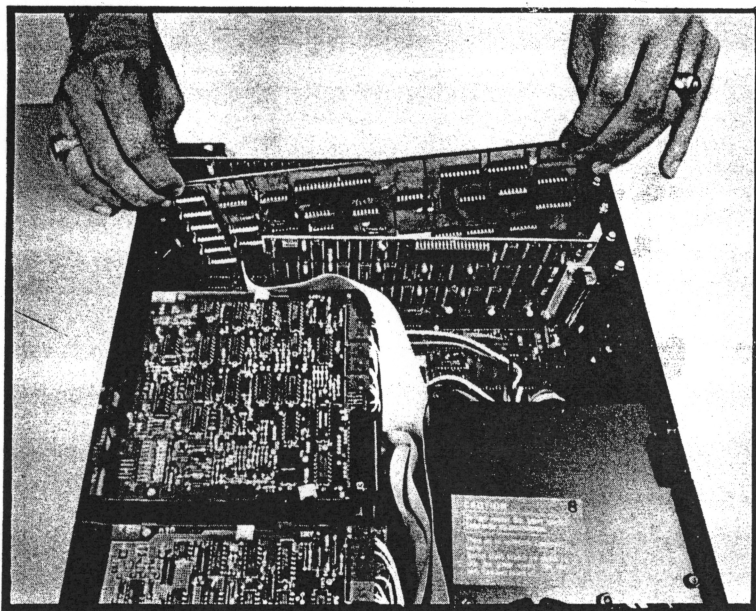

Figure 7
*Plug-in:* Ease the mounting bracket's tongue into the gap between the system board and the back panel and press the Baby Blue board into the expansion slot (Figure 7). The board should seat firmly — you should *feel* that it has gone all the way into the socket. Be careful not to disturb any other expansion-option boards in the process.